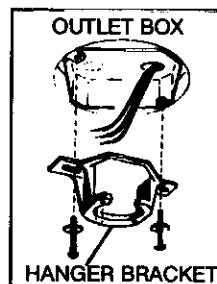

FIG. 6
Step 1. Secure the hanger bracket to the ceiling outlet box using screws provided with the outlet box and flat washers provided with the fan. (Fig. 6)